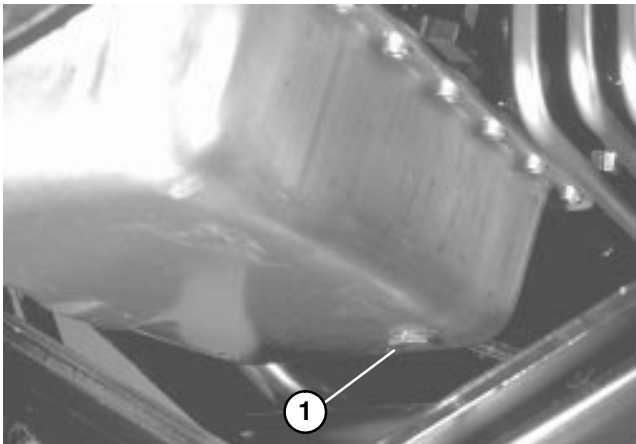

Figure 43
ENGINE OIL AND FILTER (Fig. 43–44)
1. Remove drain plug (Fig. 43) and let oil flow into drain pan. When oil stops, install drain plug and new plug seal, Part No. 74–7850.